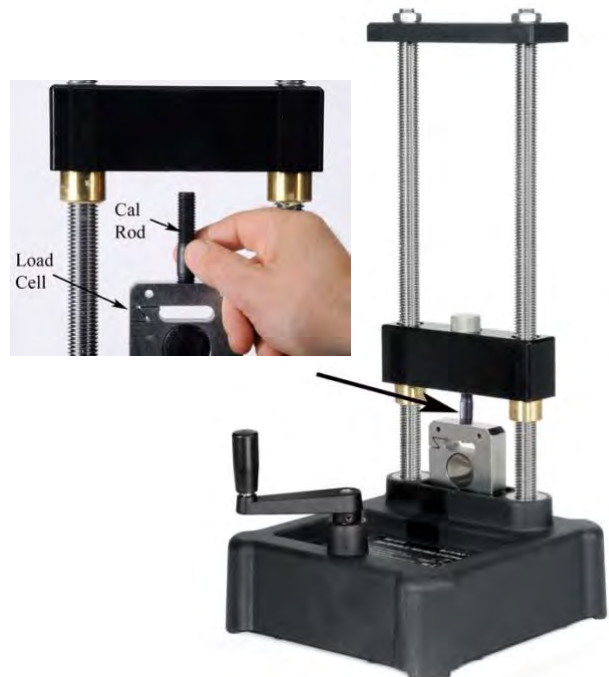

Figure 1: Using the Calibration Rod to make a Compliance Calibration
1. Install the Calibration Rod as shown in Figure 1. The end of the rod, with the shorter threads, screws directly into the top of the Load Cell.